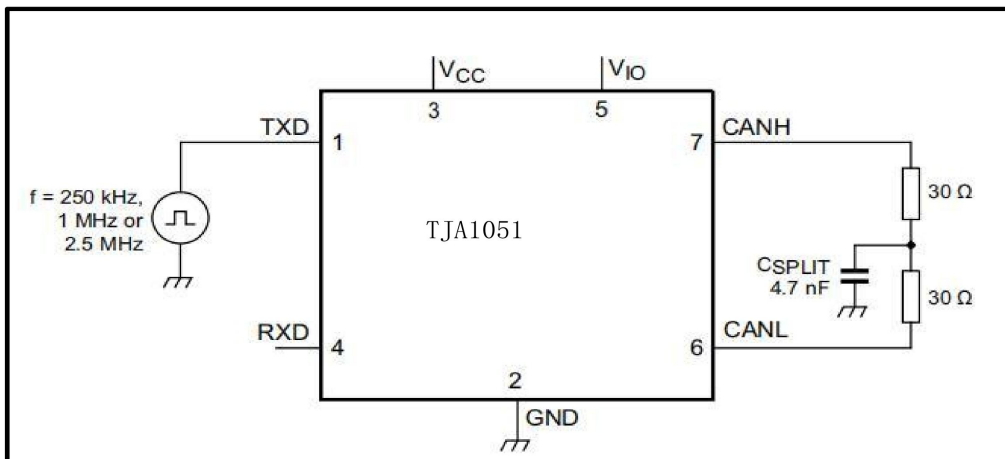

Fig 6. Test circuit for measuring transceiver driver symmetry
- (1) In transceivers without a V_{IO} pin, the V_{IO} input is internally connected to V_{CC} .
- (2) All parameters are guaranteed over the virtual junction temperature range by design. Factory testing uses correlated test conditions to cover the specified temperature and power supply voltage range.
- (3) Maximum value assumes $V_{CC} < V_{IO}$; if $V_{CC} > V_{IO}$, the maximum value will be $V_{CC} + 0.3$ V.
- (4) Not tested in production; guaranteed by design.
- (5) The test circuit used to measure the bus output voltage symmetry (which includes C_{SPUR}) is shown in Figure 6.